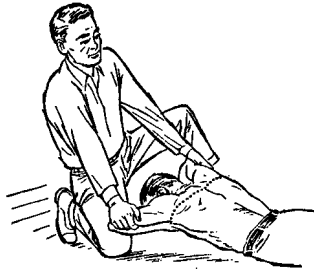

FIGURE 20. Expansion Phase.
- e. Draw his arms upward and toward you. Apply just enough lift to feel resistance and tension at the victim's shoulders. Do not bend your elbows, and as you rock backward the victim's arms will be drawn toward you. Then lower the arms to the ground. This completes the full cycle. The arm lift expands the chest by pulling on the chest muscles, arching the back, and relieving the weight on the chest. The cycle should be repeated 12 times per minute at a steady rate. The compression and expansion phases should occupy about equal time with the release periods being of minimum duration (Figure 20).